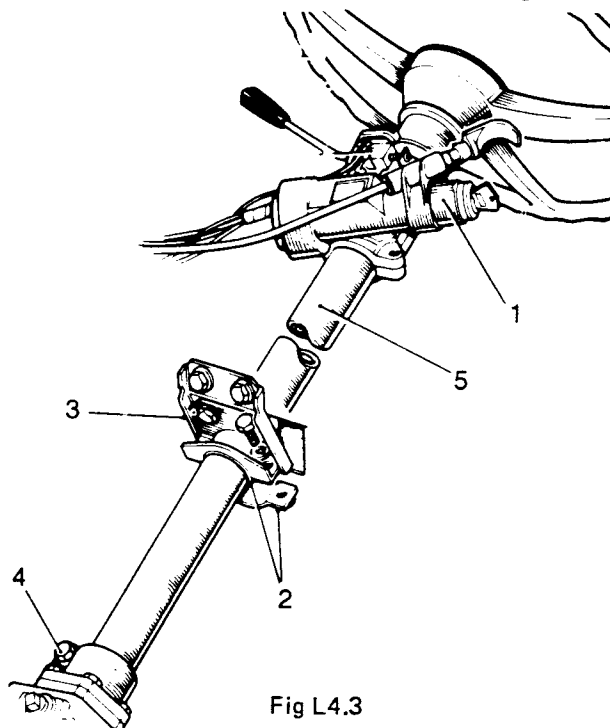

Fig L4.3
- (2) Refer to Fig L4.3. Replace the outer column (5) over the inner column.
- (3) Tighten the pinch bolt (4), outer column to steering box.
- (4) Refit the column support bracket (3).
- (5) Replace the column clamp bracket and seal (2).
- (6) Replace the ignition/starter switch on the mounting bracket and screw the locking ring (1) tight.
- (7) Replace the combined switch onto the steering column (see Sub-section L4, Chapter 2).
- (8) Replace the steering wheel (see Sub-section L4, Chapter 8).
- (9) Refit the battery negative lead.